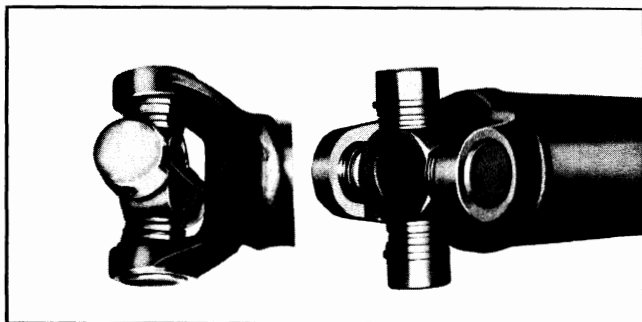

Fig. 4A-4 Bearings Held in Place by Tie Wire
2. Use a suitable rubber band to hold bearing onto journals if tie wire has been removed to prevent loss of needle bearings when rear joint is disconnected (Fig. 4A-4).